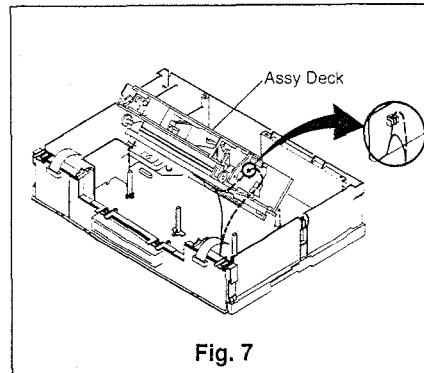

Fig. 7
- ④ Raise the front side of the Assy Deck upward as shown in Fig. 7 and support it with a screw driver, etc. Servicing on the components side of the PCB is now possible.